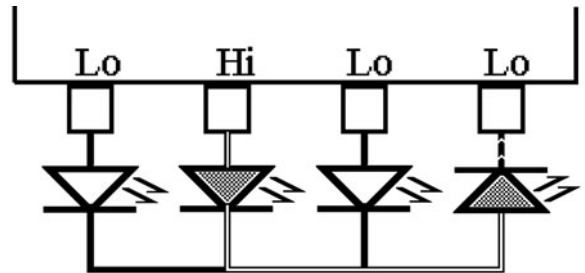

Figure L41-2
- The drawing in Figure L41-2 best explains what is happening.